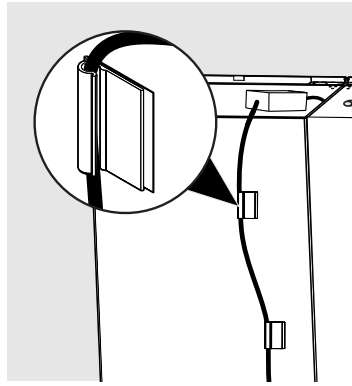

Fig. 13
- Use the clips provided to hold the excess power cords to the back of the units such that all wires are away from the floor (Fig. 13).